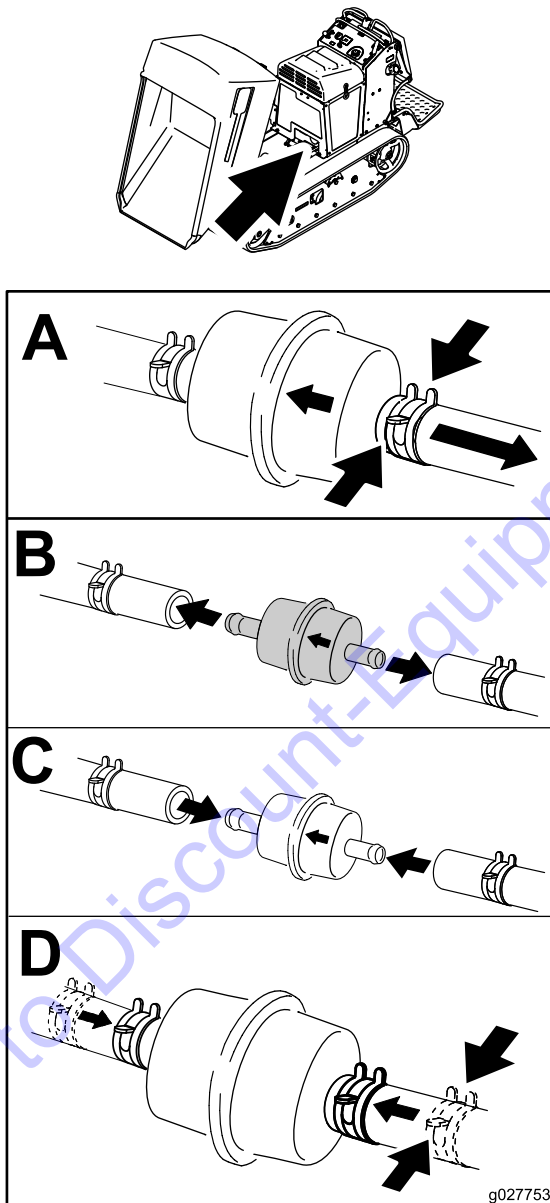

Figure 31
3. Replace the fuel filter as shown in Figure 31.